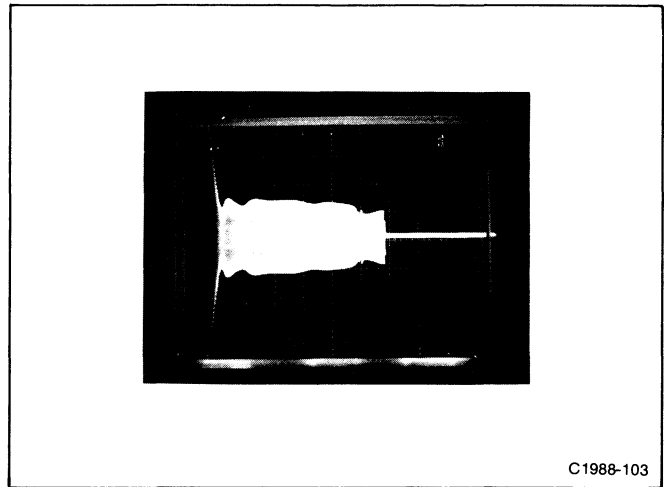

Figure 4-5. Current waveform at A23T30 showing burst operation at line voltage of about 60 V.
4. If the R7103 continues in the pulse mode or keeps blowing line fuses, check the current waveform through T30 on the A23 Inverter Board. To do this, first repeat part 1 of this step. Then connect a current probe from the test oscilloscope to the gray lead that passes through toroid transformer T30. Set the test oscilloscope for a vertical deflection factor of about 1 volt/division and a horizontal sweep rate of 2 milliseconds/division. Connect the R7103 power-cord plug to the variable transformer which is set for 0 volt. Turn the R7103 on and slowly increase the variable autotransformer's output to about 60 volts. Check for a burst waveform on the test oscilloscope (similar to that shown in Fig. 4-5).